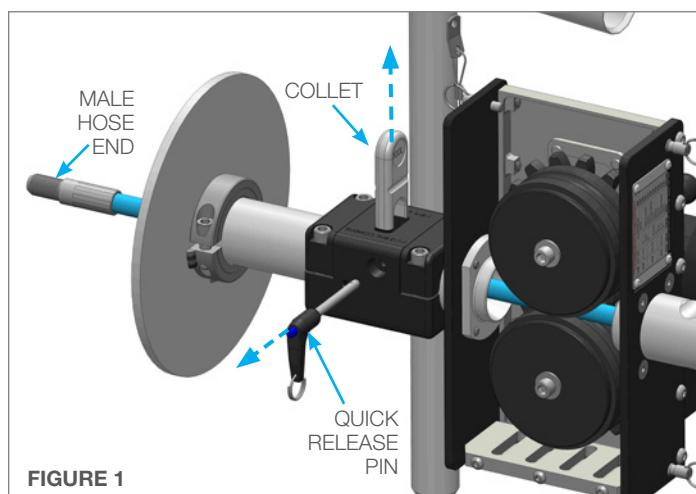
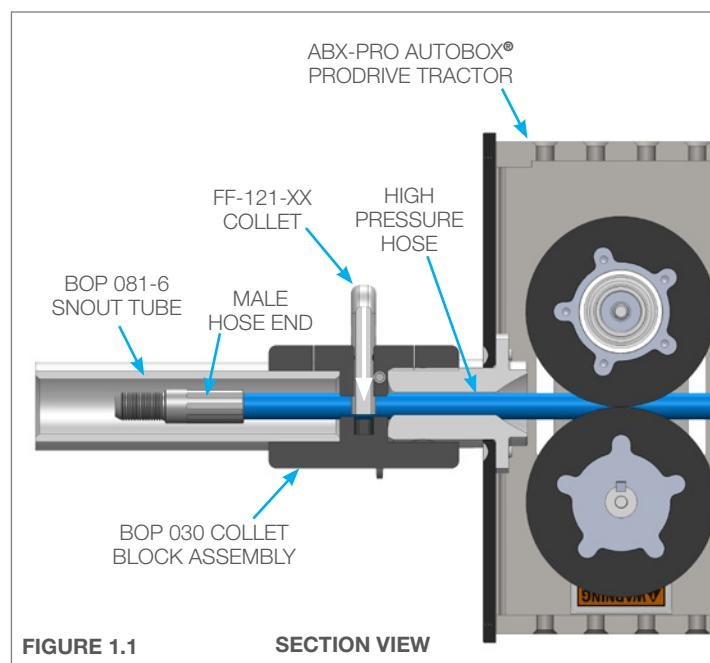

FIGURE 1
FIGURE 1.1 SECTION VIEW
- Once the appropriate Collet size for the hose diameter is selected, pull the Quick Release Pin and remove the Collet. Feed the Male Hose End through the ABX-PRO AUTOBOX® PRODRIVE TRACTOR, BOP 030 Collet Block, and BOP 081-6 Snout Tube. (**Figure 1**) Replace the Collet and Quick Release Pin. Pull back on the hose to ensure the Male Hose End does not back out past the Collet. (**Figure 1.1**)
1. Open the back cover of the ABX-PRO Tractor by pulling the top two Quick Release Pins in the outward direction. (**Figure 1**)
1. Choose an alternate size or replacement set of Poly Rollers by using the reference chart in the section below to select the proper sizing. Slide the Poly Rollers onto the Hubs. Then fasten the Hub Outer Plates and Roller Washers onto the Spline Load Rollers with the two 5/16" socket head cap screws. (**Figure 1**)